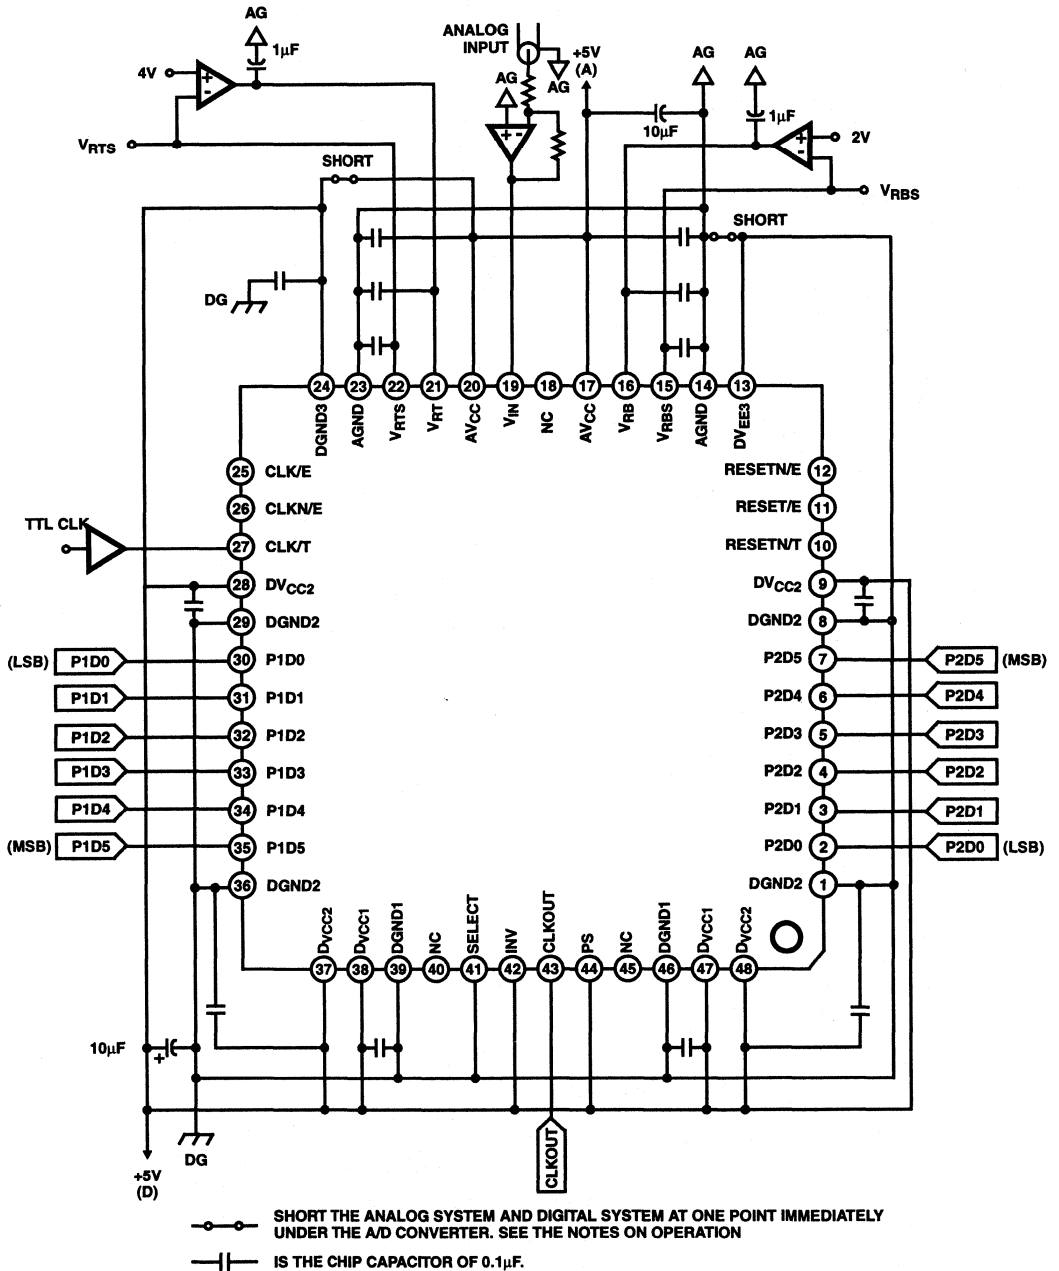

FIGURE 25. STRAIGHT MODE TTL I/O (WHEN A SINGLE POWER SUPPLY IS USED)
- The offset for residual is generated each for the reference voltage pins V_{RT} and V_{RB}. When the offset voltage has no influence on the IC operation, the voltage should be applied to the V_{RT} and V_{RB} pins directly, keeping the V_{RB}S pin open. When the reference voltage is to be supplied to these pins precisely, form the feedback loop circuit with V_{RT} and V_{RB} as a force pin and adjust the offset voltage to be 0V. See Figure 25 for details.